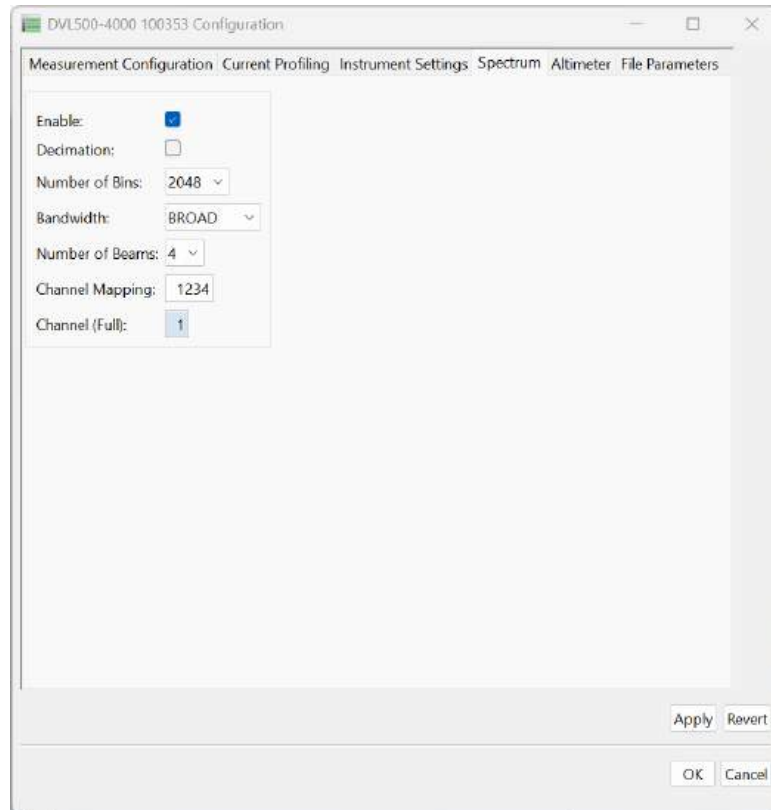

Figure 13: Midas Spectrum Tab
5. Configure the spectrum analyzer and apply settings shown in Figure 13.